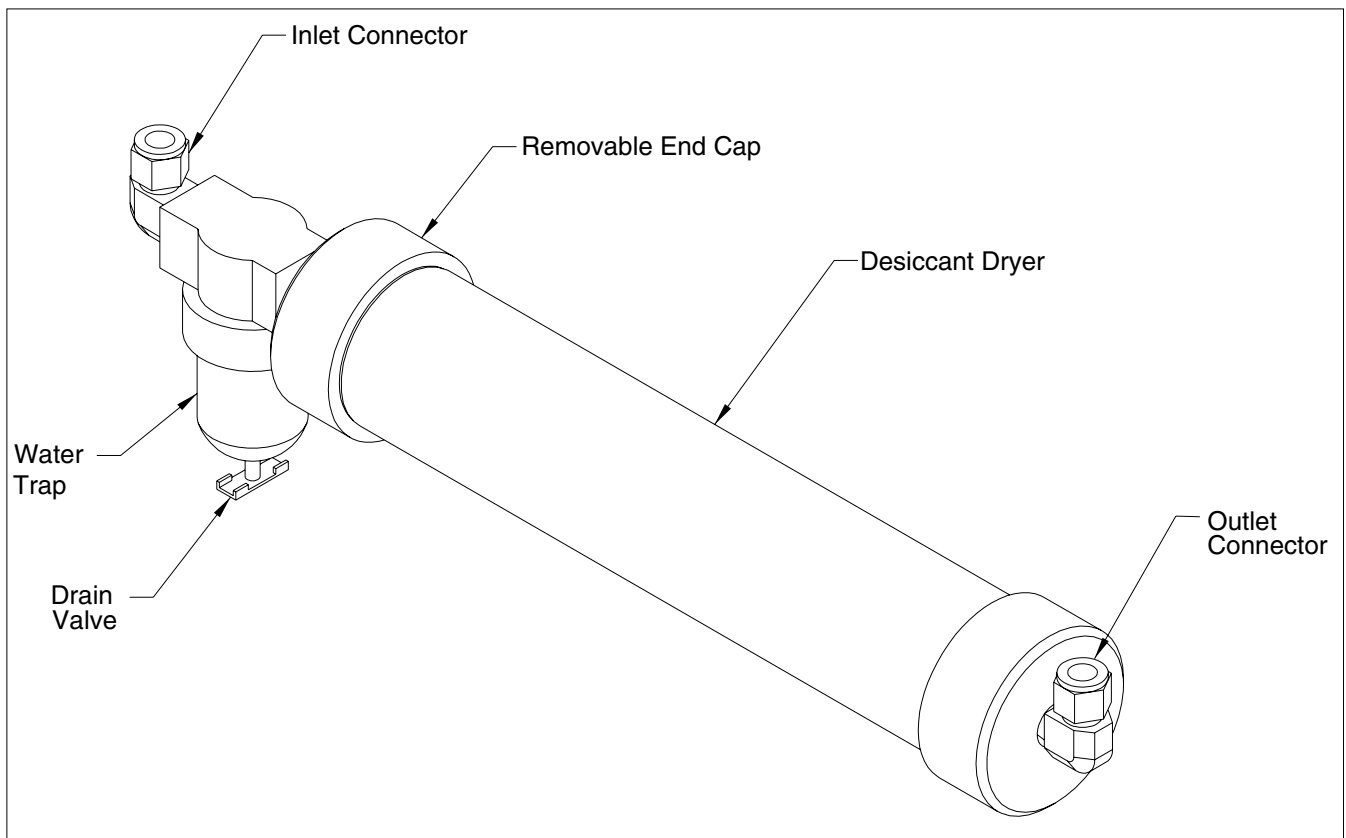

Figure 1
1. Disconnect the inlet and outlet connections and remove the dryer from its brackets (refer to Figure 1).